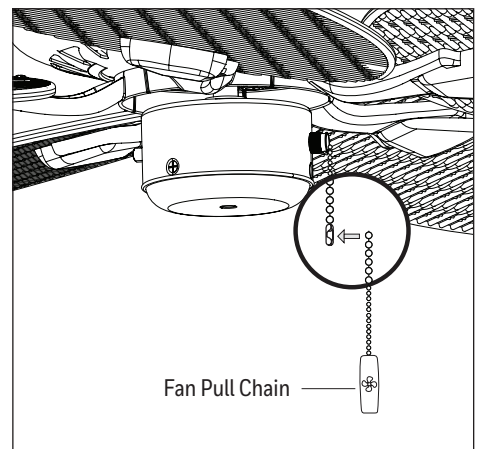

Figure 6.3
- Attach the pull chain extension (Figure 6.3). Turn on power to fan at breaker box and the wall switch. Assembly is complete.